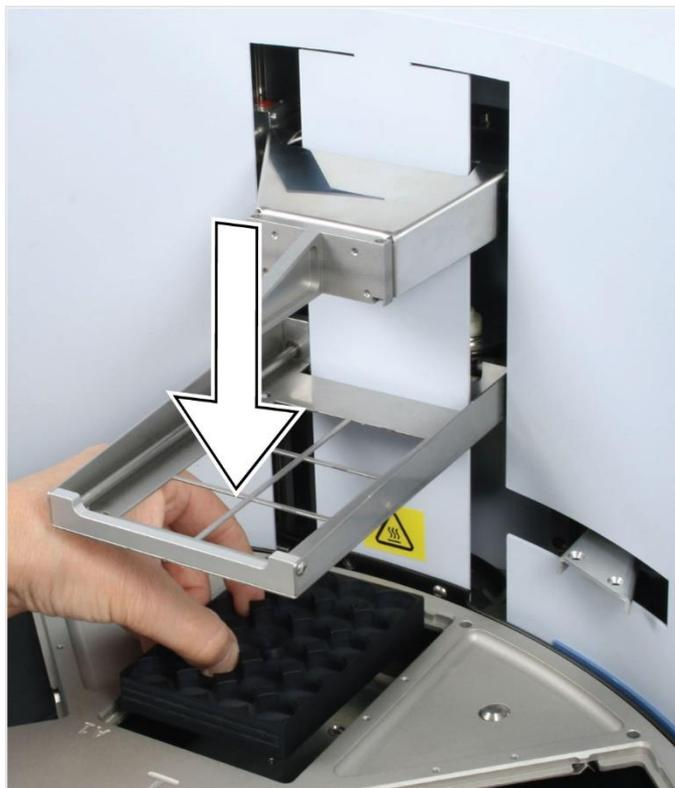
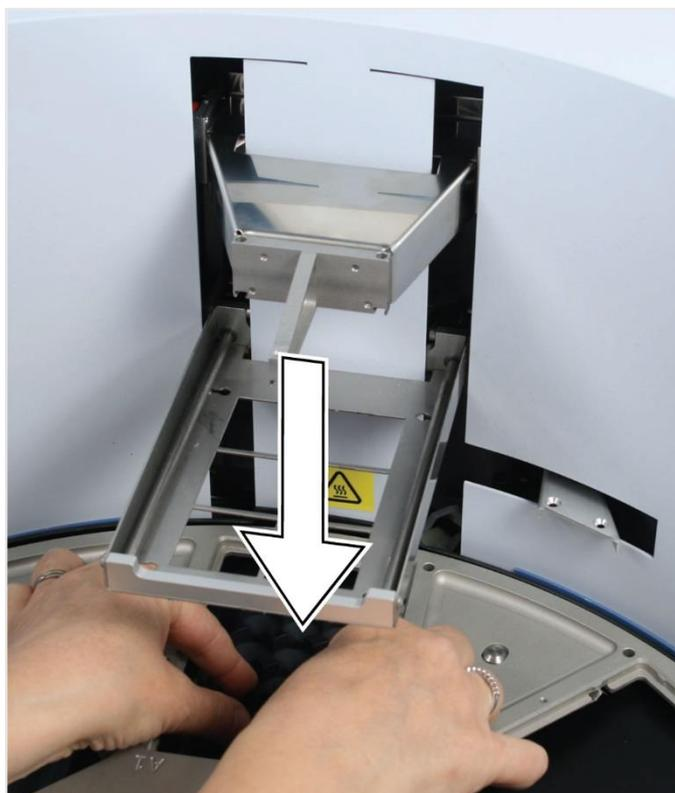

Figure 19. Insert the heating block
Figure 20. Press the heating block into place
3. Insert the heating block by first setting it and then pressing it hard into place (Figure 19 and Figure 20). The heating block snaps into place at both ends if you have done it correctly.